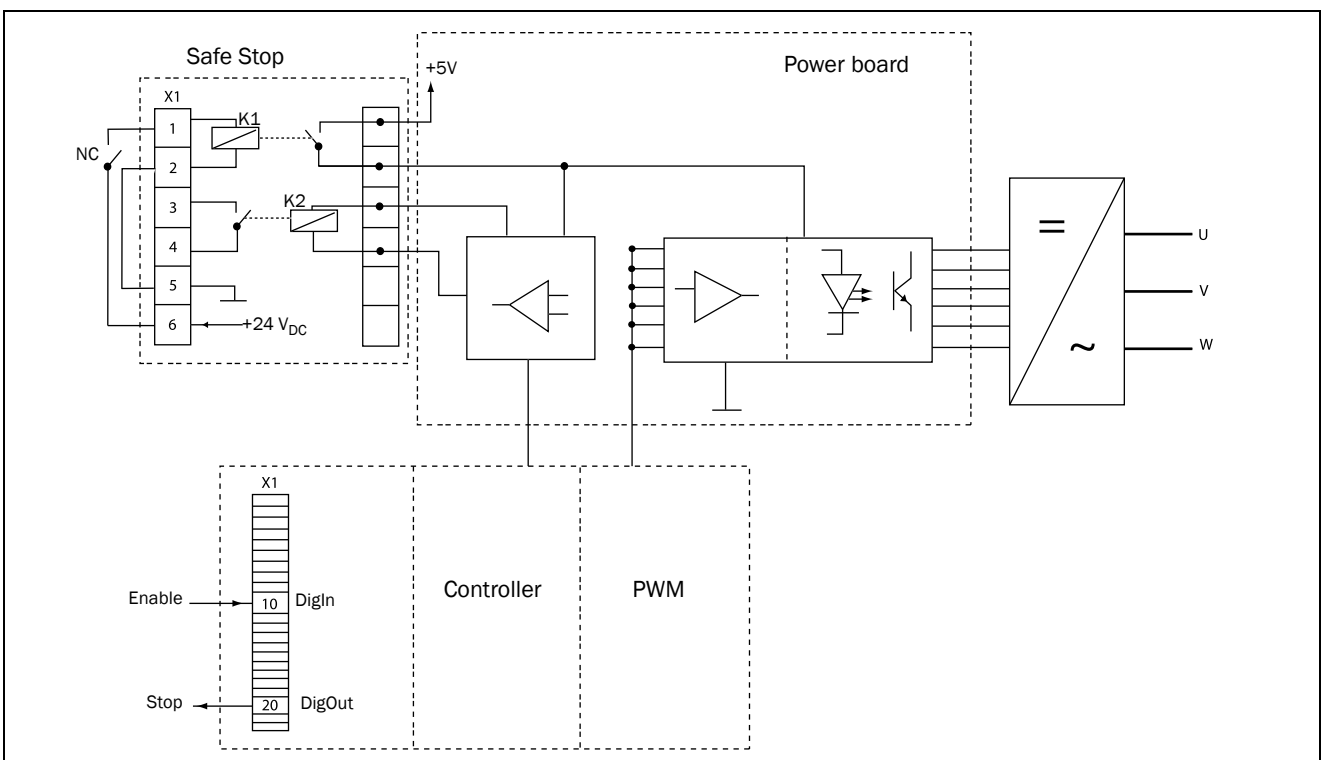

Fig. 148 Safe Stop connection
- "Inhibit" input, terminals 1 (DC+) and 2 (DC-) on the Safe Stop option board should be made active by connecting  $24\text{ V}_{\text{DC}}$  to secure the supply voltage for the driver circuits of the power conductors via safety relay K1. See also Fig. 148.
- High signal on the digital input, e.g. terminal 10 in Fig. 148, which is set to "Enable". For setting the digital input please refer to section 11.5.2, page 155.
terminal 20 in the example Fig. 148, please refer to section 11.5.4, page 161 [540].